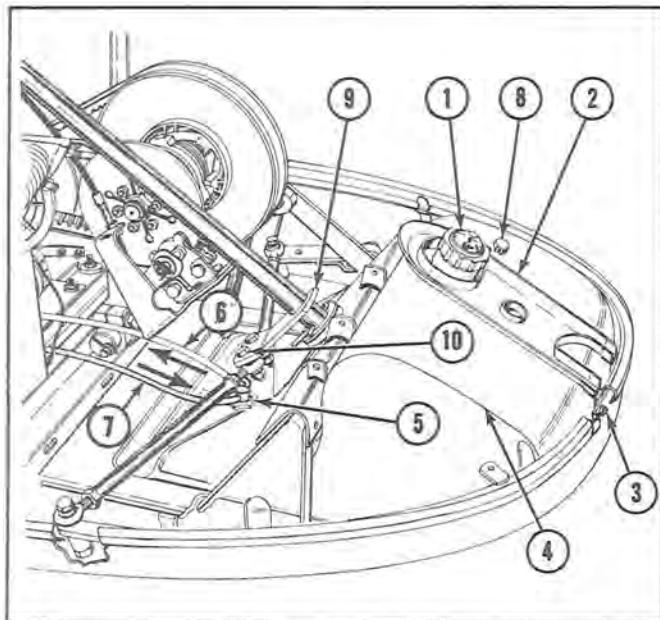

Figure 12
- Remove the bolts (10, figure 12), spacers and nuts securing the steering linkage to the steering column arm (9). During reassembly, apply 15 foot-pounds torque to the nuts securing the steering linkage.
- Remove the gas cap and indicator assembly (1, figure 12).
- Remove the bolts (3) and washers securing the gas spill chute (2) to the main frame and remove the gas spill chute.
- Disconnect the tank-to-carburetor gas line (6) and the recirculating gas line (7) at the gas tank outlet fitting (5). Wipe up any spilled gasoline immediately.
- Remove the gas tank (4) by carefully sliding the tank up and away from the main frame. **IMPORTANT:** Do not damage the gas tank outlet (5) when removing the tank.